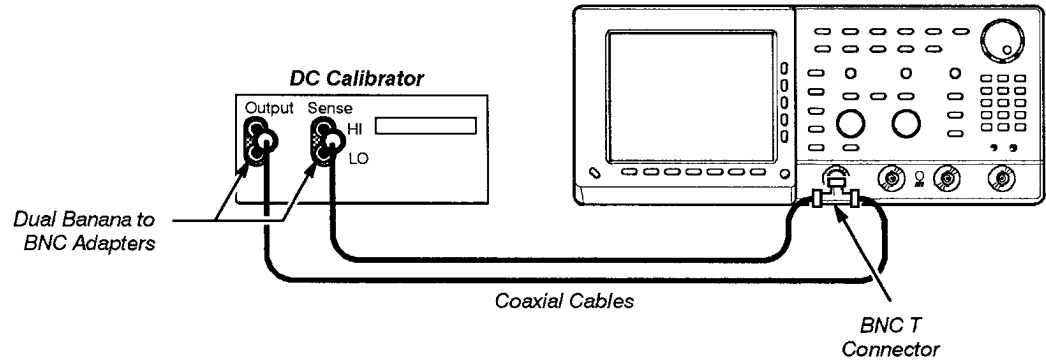

Figure 4-5: Initial Test Hookup
1. *Install the test hookup and preset the instrument controls (see Figure 4-5):*